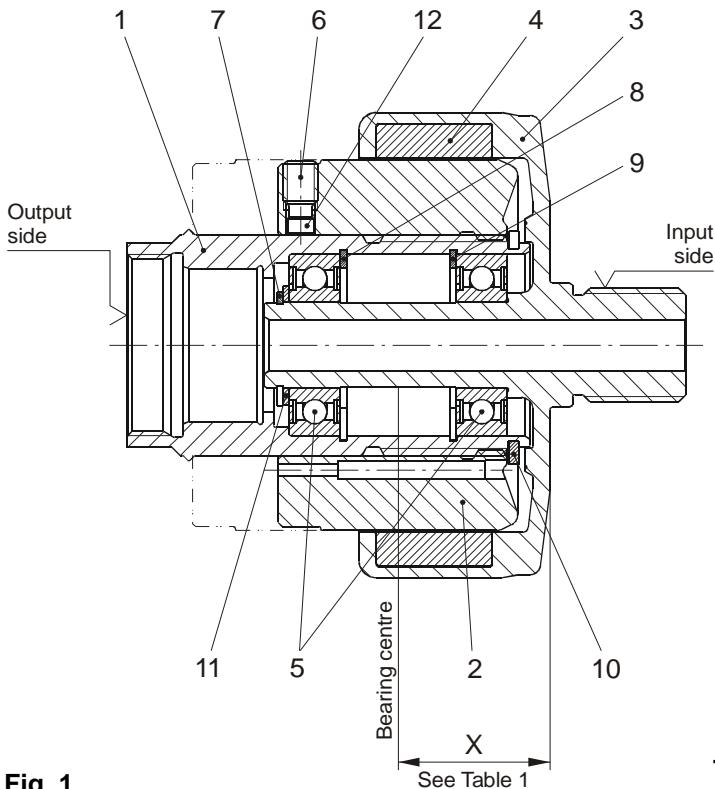

Fig. 1
- 5) With reference to a nominal bearing service lifetime $L_{10h} = 20000$ h, the radial force F_{rad} level arm must be max. 70 mm away from the bearing centre (Fig. 1) and a bearing speed $n = 350$ rpm.